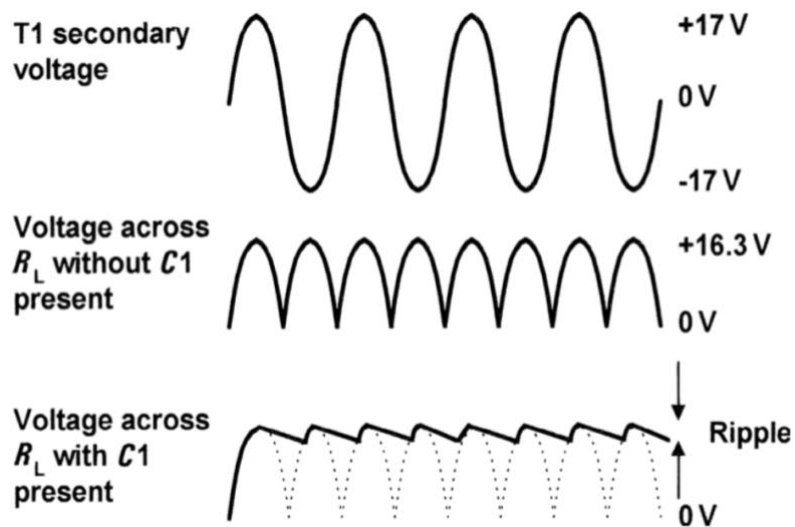

Figure 1.13 Waveforms for the bi-phase rectifier Note that the ripple frequency (100 Hz) is twice that of the half-wave circuit shown previously in Fig. 1.7.
- As a consequence, the only discharge path for C1 is through  $R_L$ . Fig. 1.13 shows voltage waveforms for the bi-phase rectifier, with and without C1 present.